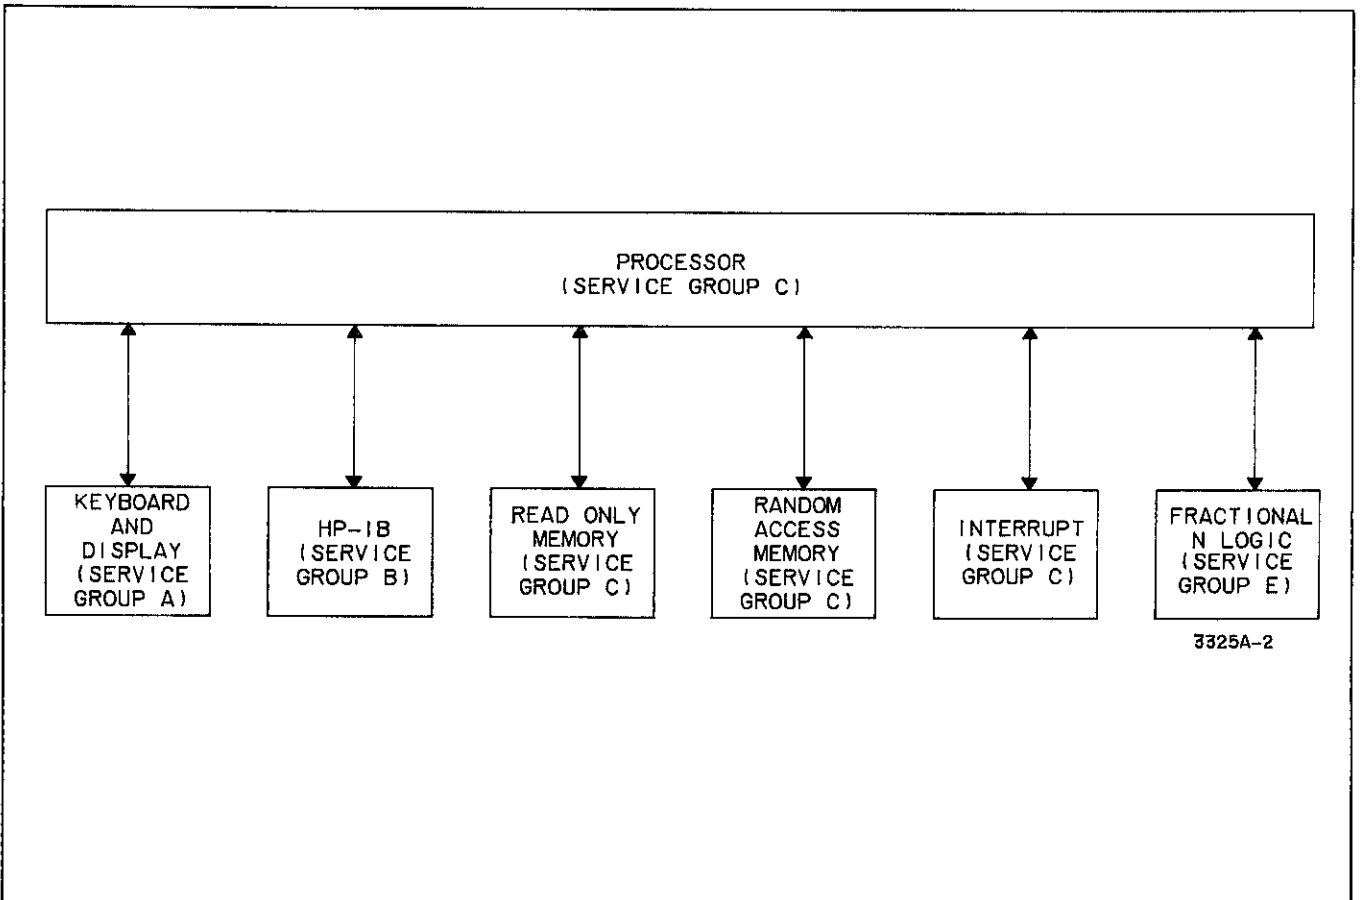
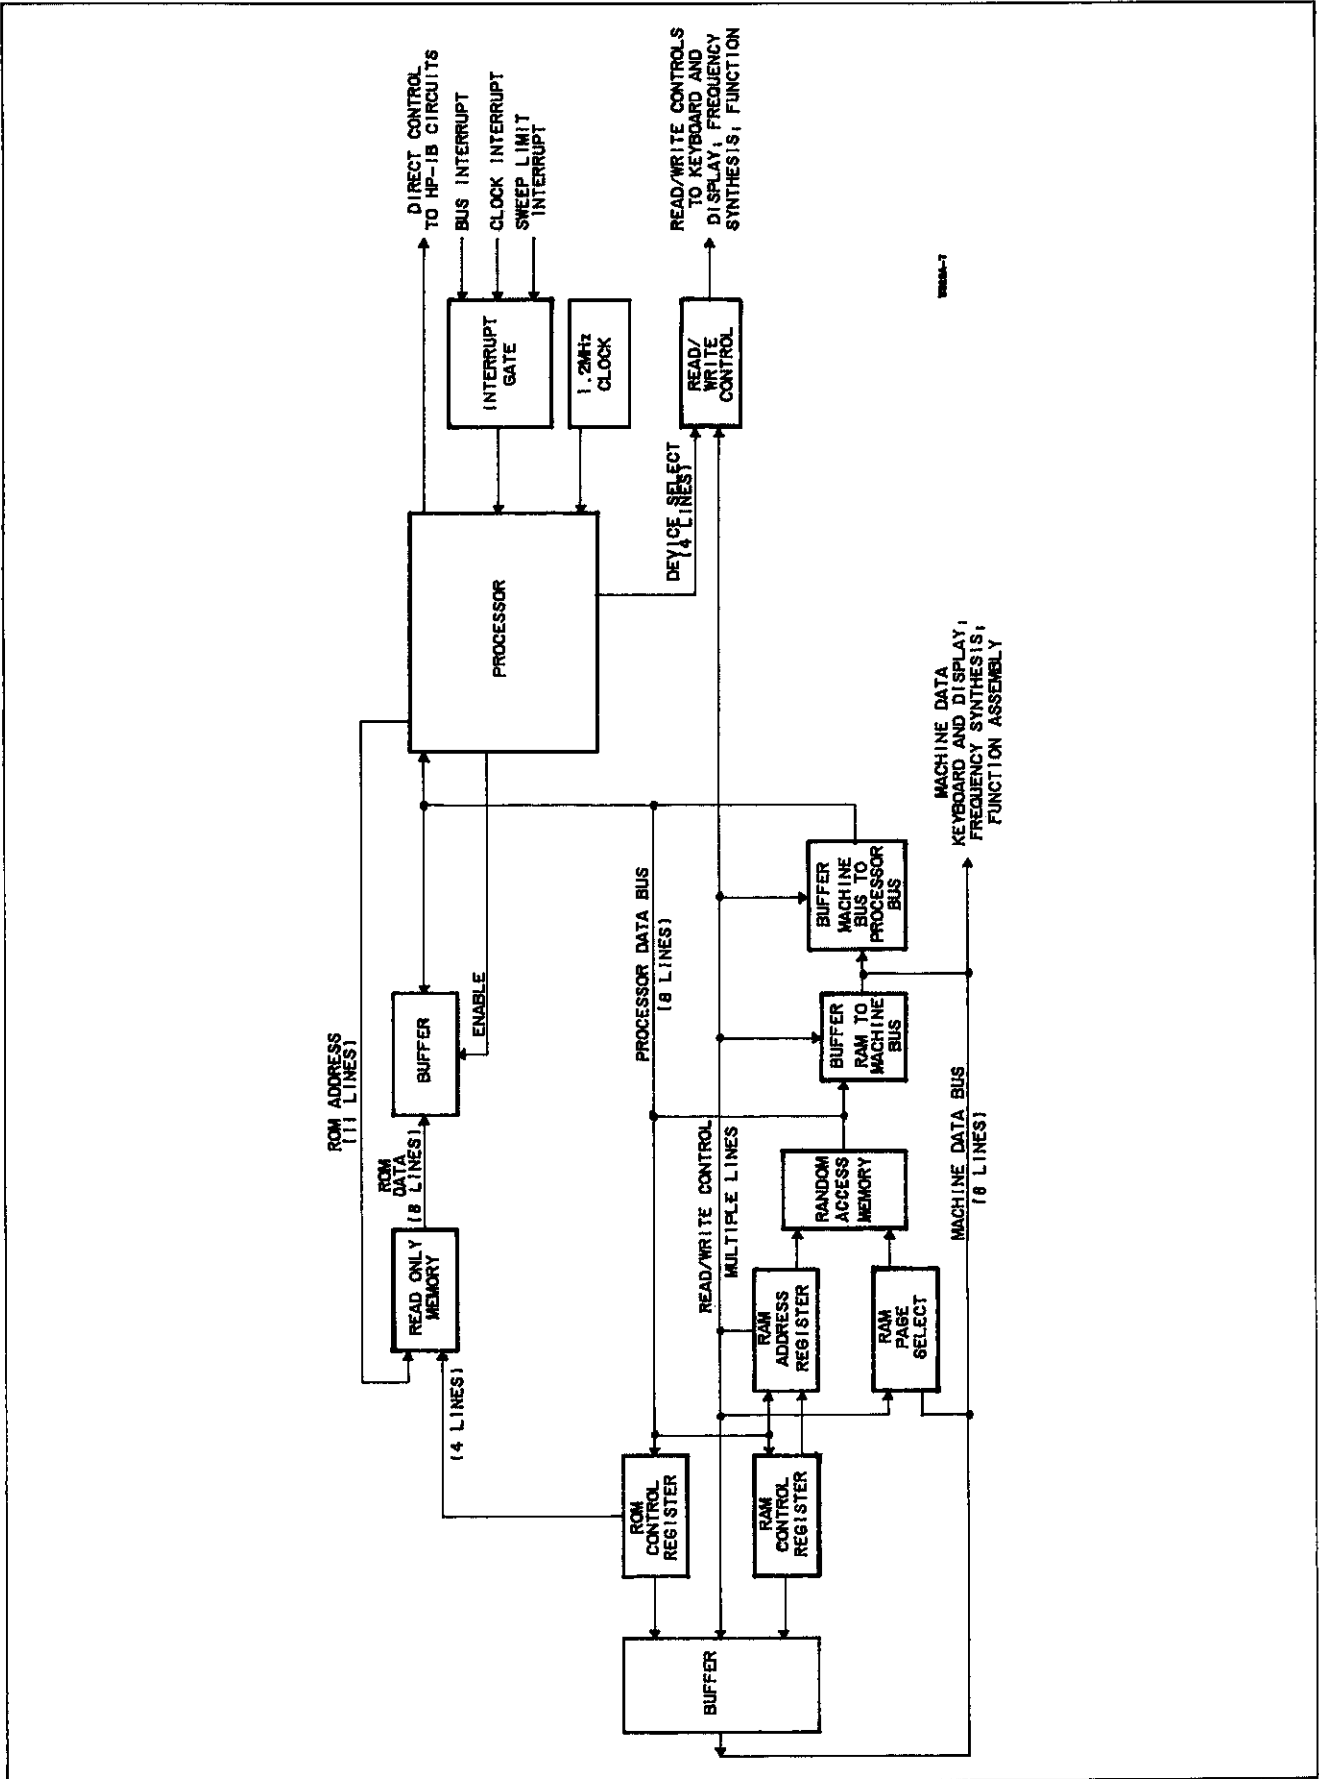

Figure 8-2. Basic Block Diagram, Logic Circuits.
Figure 8-7. Basic Block Diagram of Control Circuits.
8-6. The following theory is a general description of each of the circuit blocks in the 3325A. A foldout functional block diagram of the 3325A follows Service Group O. Additional information on individual circuits may be found within the service groups. Figure 8-2 is a basic block diagram of the logic circuits, which interface with the processor (and with each other through the processor) to control the operation of the instrument. The Machine Data Bus, which consists of eight parallel lines labeled HMD0 through HMD7, is the principal means of data exchange between the control circuits and other parts of the instrument.
**8-19.** The Control circuits include all the blocks in Figure 8-2 labeled Service Group C, plus other circuits such as Read and Write Control and the 1.2 MHz control clock oscillator. Figure 8-7 is a basic block diagram of the Control circuits. A brief definition of some circuit components may be helpful.